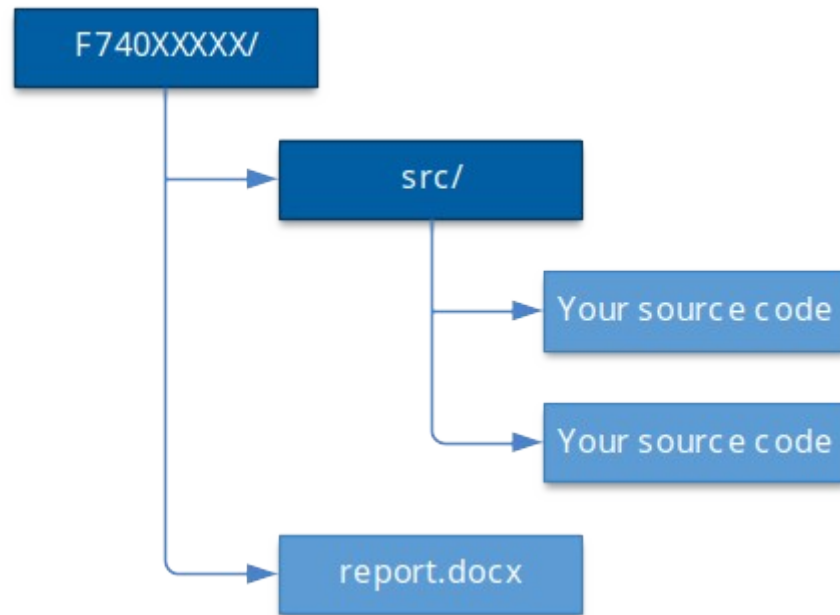

Figure 1. File hierarchy for homework submission
- Please follow the file hierarchy shown in Figure 1.